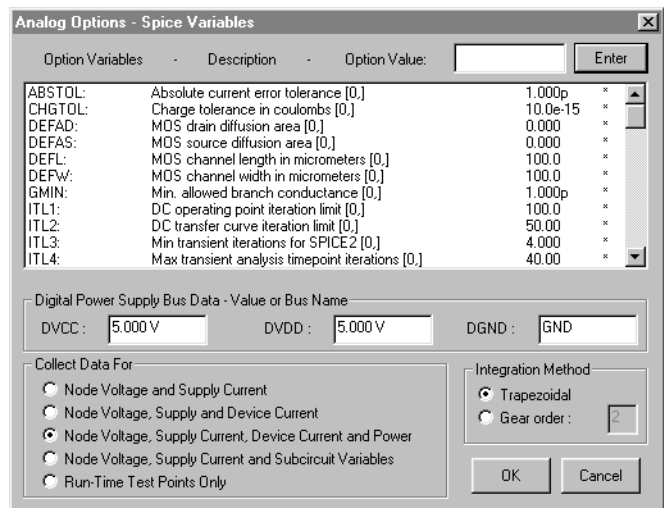

Figure 16.1. This dialog box lists the Spice option variables, which you can change. An asterisk (\*) in the dialog box denotes default values for each option.
- 1 Choose **Simulation > Analyses Setup > Analog Options** to display the Analog Options - Spice Variables dialog box pictured in Figure 16.1.